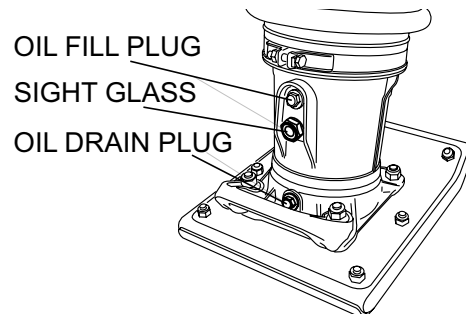

Figure 18. Oil Drain Plug
- Remove the oil drain plug on foot housing (Figure 18) and drain the oil. Refill with approximately 1.7 pint (800 cc) of 10W-30 SE, SF or higher grade motor oil. Oil should be midway in sight glass. Break-in oil should be changed after first 50 hours.